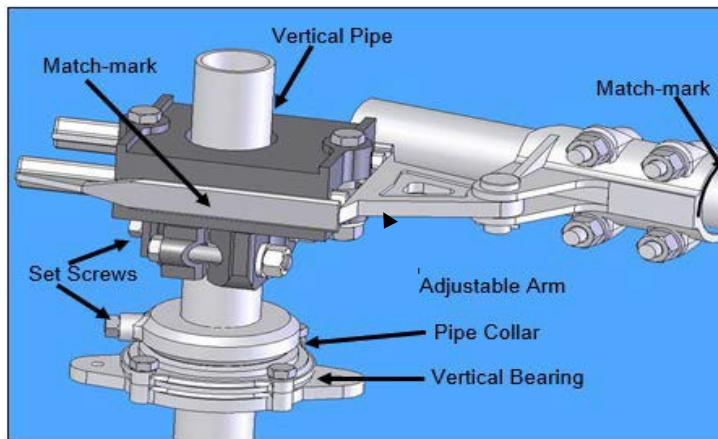

Figure 15: Typical Operating Arrangement
5.6 Refer to the Operating Mechanism drawing and install all mounting brackets, bearings, bushings, pipe clevises, switch operating device, adjustable arm, reach rod, and other necessary components. Refer to **Figure 15**. Do not connect the interphase pipe at this time.
6.1. The operating mechanism is intended to fully open and fully close the disconnect switch by rotating the vertical operating pipe $180^{\circ}\pm$ using an operator (manual or electrical). The interphase pipe controls the individual operation of each switch pole, using a push/pull control. The reach rod translates the motion of the vertical operating pipe to the interphase linkage. The adjustable arm (**Figure 15**) controls the total amount of switch operation available.